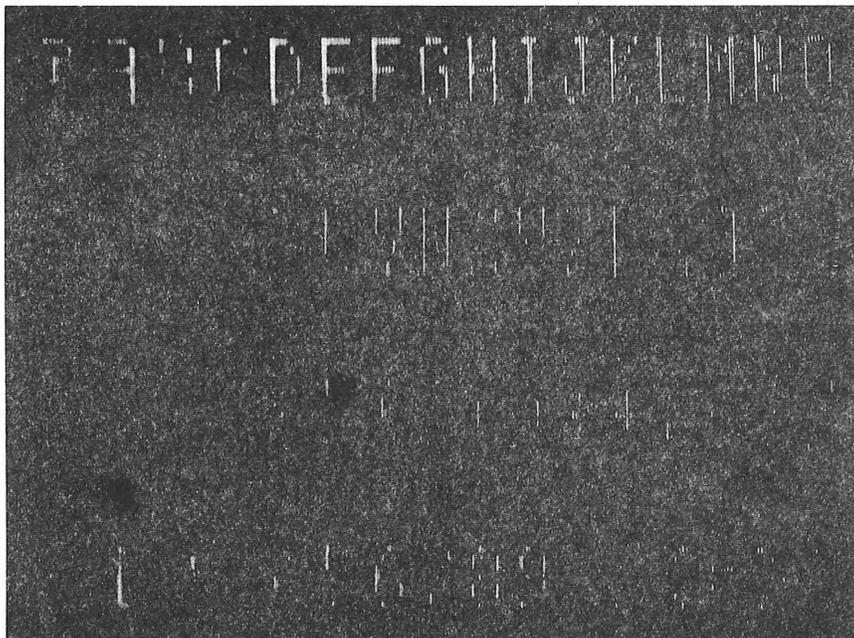

Figure 1-2. Display Repertoire
1.06 Figure 1-2 shows the entire display repertoire of 64 ASCII alphanumeric and punctuation characters.